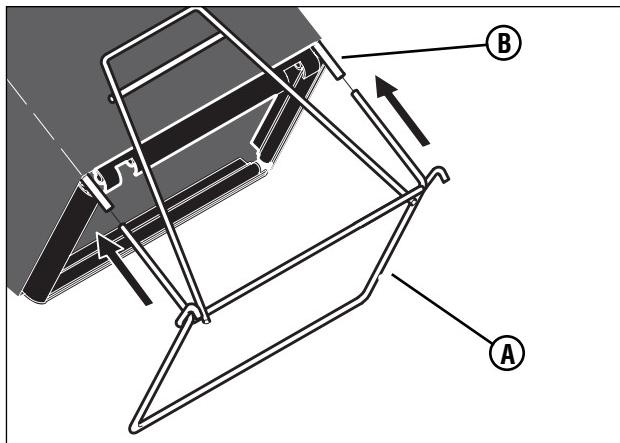

Figure 5: Installing the frame assembly
1. Slide the frame assembly (**A**, **Figure 5**) into the ends of the support tube (**B**). Make sure the frame assembly is fully inserted into the support tube.